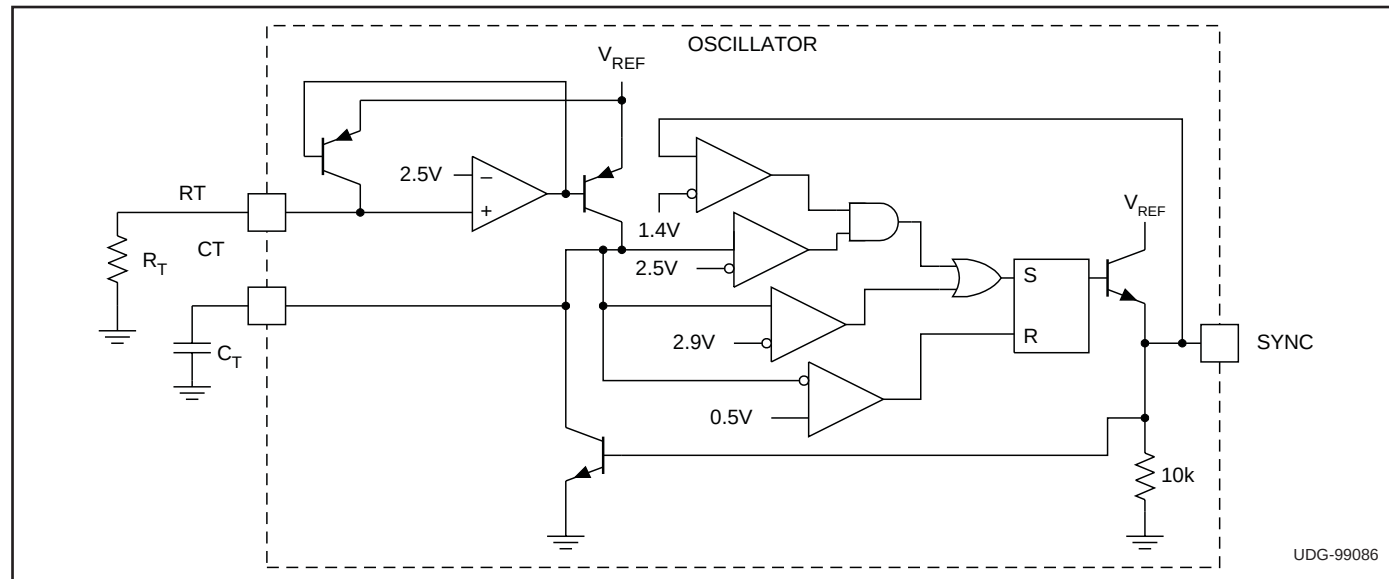
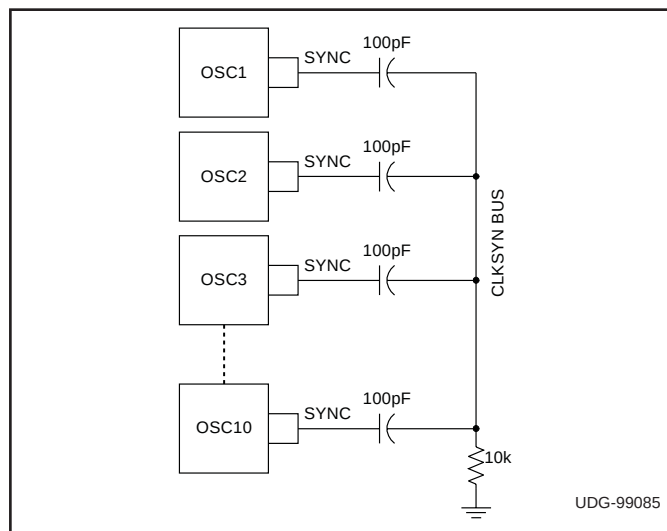

Figure 1. Oscillator block with external connections.
Figure 3. Oscillator synchronization connection diagram.
**PWM Oscillator.** The oscillator block diagram with external connections is shown in Fig. 1. A resistor ( $R_T$ ) connected to pin RT sets the linear charge current:
As shown in Fig. 3, several oscillators are synchronized to the highest free running frequency by connecting 100pF capacitors in series with each CLKSYN pin and connecting the other side of the capacitors together forming the CLKSYN bus. The CLKSYN bus is then pulled down to ground with a resistance of approximately 10k. Referring to Fig. 1, the synchronization threshold is 1.4V. The oscillator blanks any synchronization pulse that occurs when OSC is below 2.5V. This allows units, once they discharge below 2.5V, to continue through the current discharge and subsequent charge cycles whether or not other units on the CLKSYN bus are still synchronizing. This requires the frequency of all free running oscillators to be within 17% of each other to guarantee synchronization.